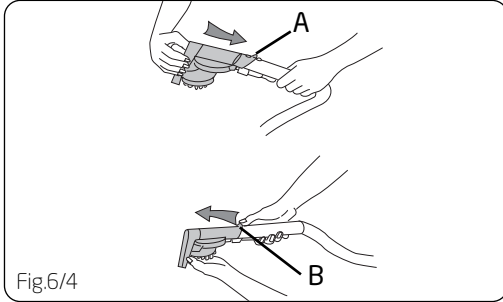

Fig 6/4
Connect tool to hose by sliding it onto connector until until the tab (A) locks it securely. Using your thumb, **push forward and up** on the latch (B) to remove tool (Fig. 6/4).